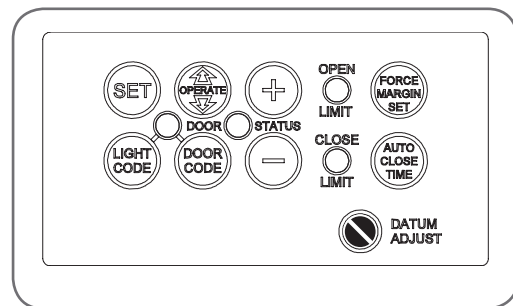

fig 21
1. Press red Minus (-) button and hold it, the door will start closing. Release the button once you have reached your desired closed limit position. (Fig. 21)
1. Press and hold the Close button (Fig. 21) for six (6) seconds until you hear three beeps and the red Close Limit LED starts to flash. Release the button.